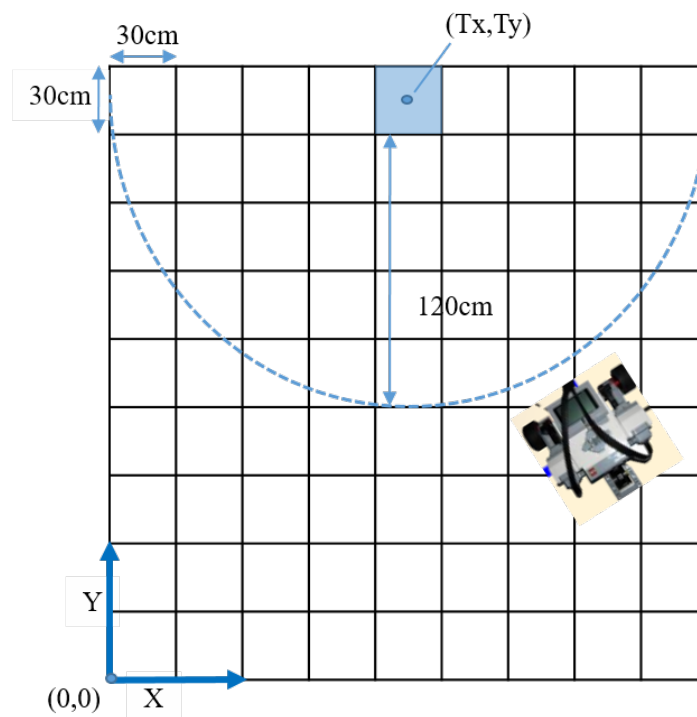

Figure 1. Example map
1. To design a ping-pong ball launching device capable of launching a ball into a 30 cm by 30 cm area at least 120 cm from the release point of the device 95% of the time (see **Figure 1**).